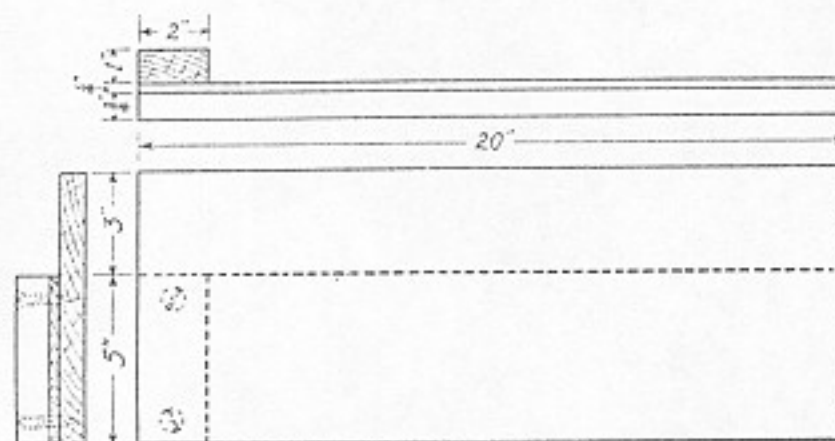
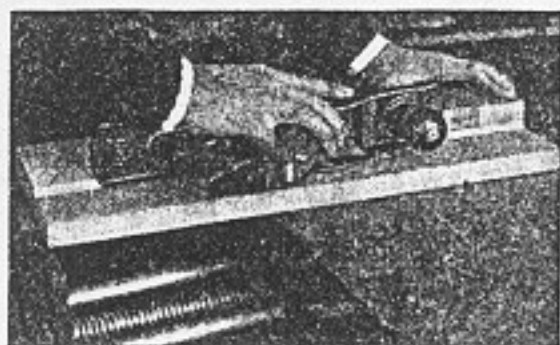

Fig. 106. Shooting board.
Fig. 107. Planing end wood using shooting board and jack plane.
4. Another very good way of planing the end of a narrow board is to use a planing device called a "shooting board," Figure 106. The board to be planed is held against the cross-piece of the shooting board, and it is planed with a jack plane or a fore plane, as shown in Figure 107.